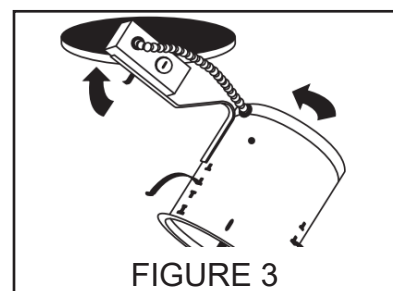

FIGURE 3
Step 3. Press housing through ceiling opening so it is flush to ceiling (Fig. 3). Push retention clips outwards until each clip tab clicks into position.